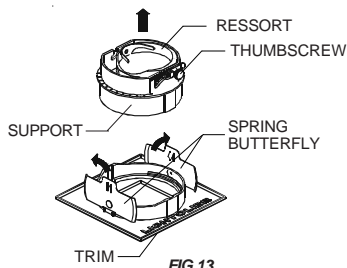

FIG.13
1. Using a screwdriver, open butterfly springs to free the support. (Fig.13)